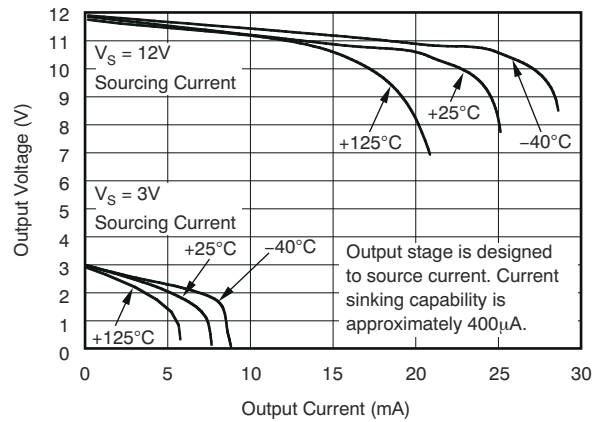

Figure 6-7. Positive Output Voltage Swing vs Output Current
- (1) Offset is extrapolated from measurements of the output at 20 mV and 100 mV V_{SENSE} .
- (2) Total output error includes effects of gain error and V_{OS} .
- (3) Linearity is best fit to a straight line.
- (4) For details on this region of operation, see the Accuracy Variations section in the Section 8.4.
- (5) See Figure 6-7.
(6) Specified by design.